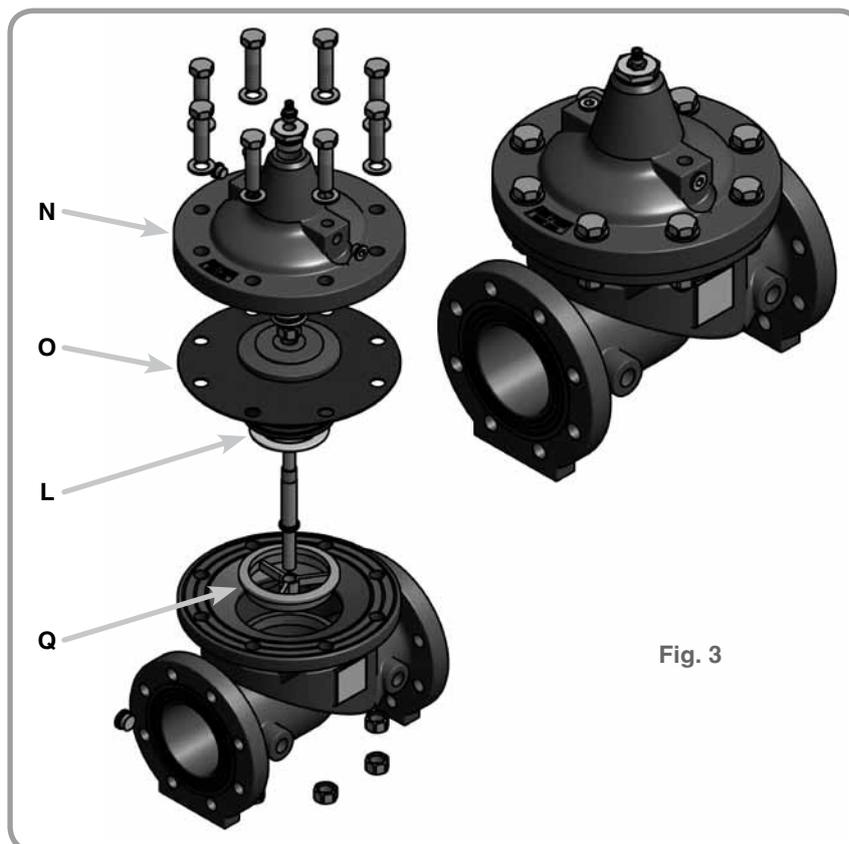

Fig. 3
- Abrir a válvula principal retirando a tampa (N – Fig.3) e o conjunto interno (O – Fig.3).
- Inspeccionar o obturador (L – Fig.3) e a sede (Q – Fig.3).
- Open the main valve by removing the bonnet (N-Fig.3), then remove the inner assembly(O-Fig.3).
- Inspect the sealing disc (L - Fig.3) and the seat (Q-Fig.3).
- Abrir válvula principal retirando a tampa e substituir o diafragma danificado (O – Fig.3).
- Open the main valve by removing the bonnet, and replace the damaged diaphragm (O - Fig.3).